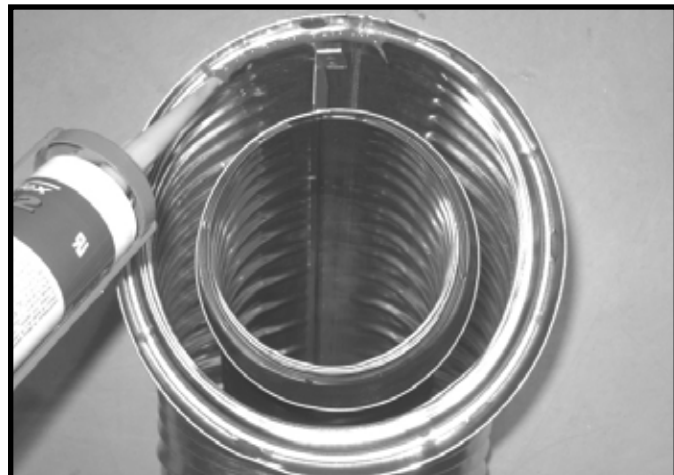

Figure 10.1 High Temperature Silicone Sealant
- Apply a bead of silicone sealant inside the female outer pipe joint prior to joining sections. See Figure 10.1
- Apply a bead of silicone sealant (minimum of 300 °F continuous exposure rating), inside the female outer pipe joint prior to joining sections. See Figure 10.1.